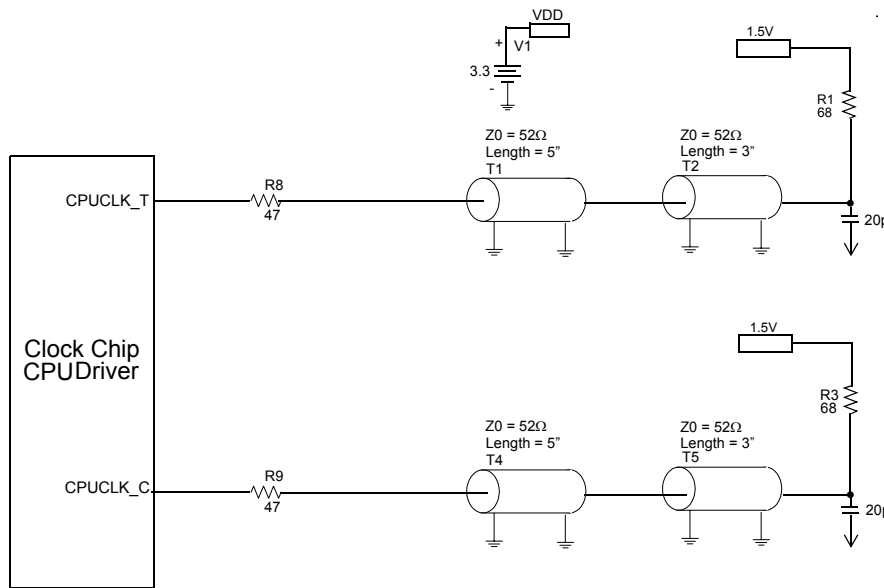

Figure 1. K7 Open Drain Clock Driver Test Circuit
6. Refer to Figure 1 for K7 operation clock driver test circuit.